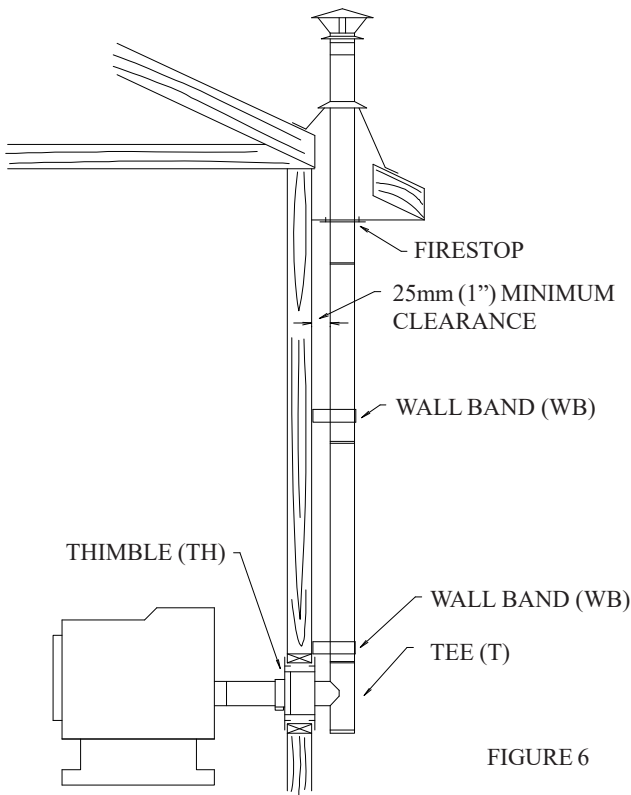

FIGURE 6
- 3.1 Follow instructions 2.1 to 2.7 (see Figure 6).